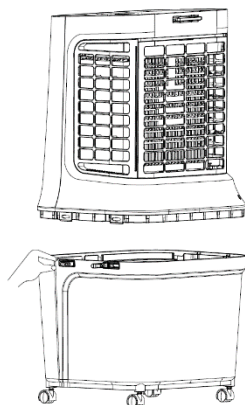

Fig. 3
2. Slowly pour water into the water tank (see figures 3 and 4).